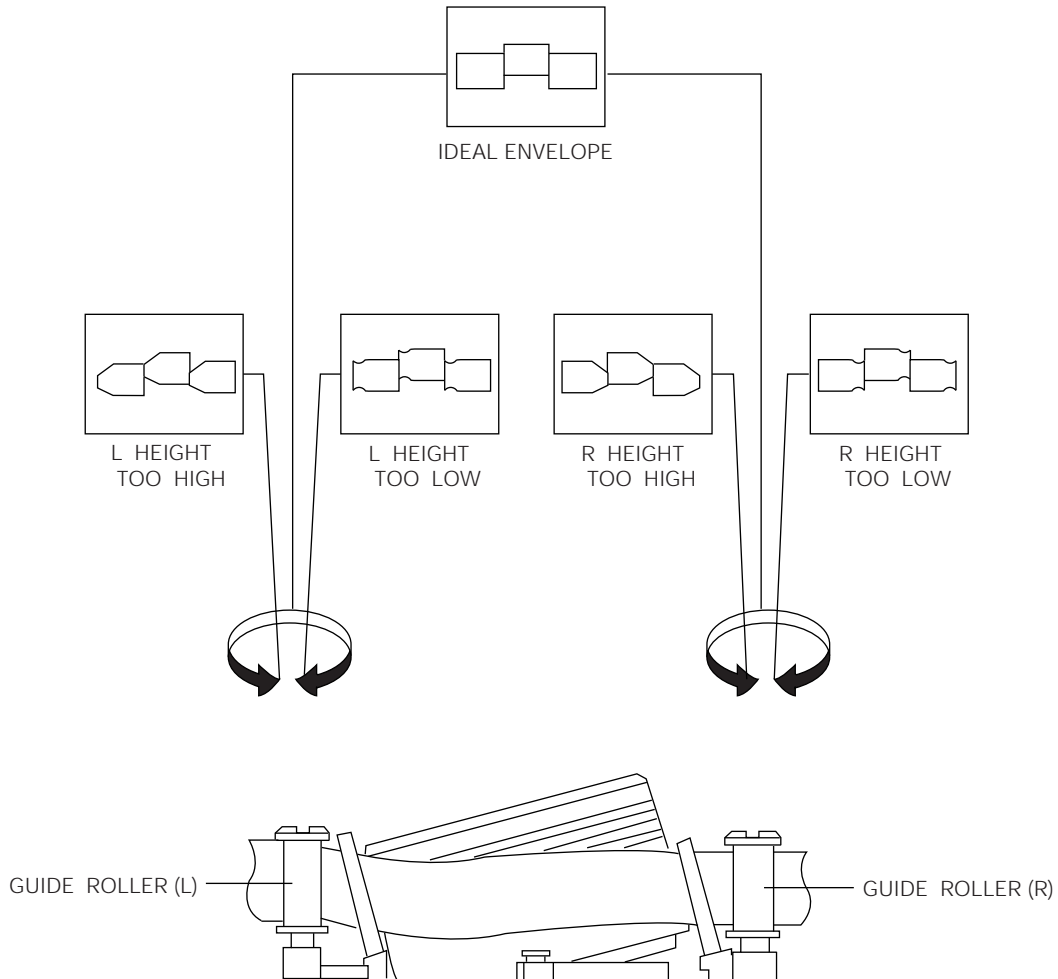

Fig. 2-8 S, T-Guide Roller Height Adjustment
8. Turn the guide roller heads with a flat head () driver to obtain a flat video RF envelope as shown in Fig. 2-8.